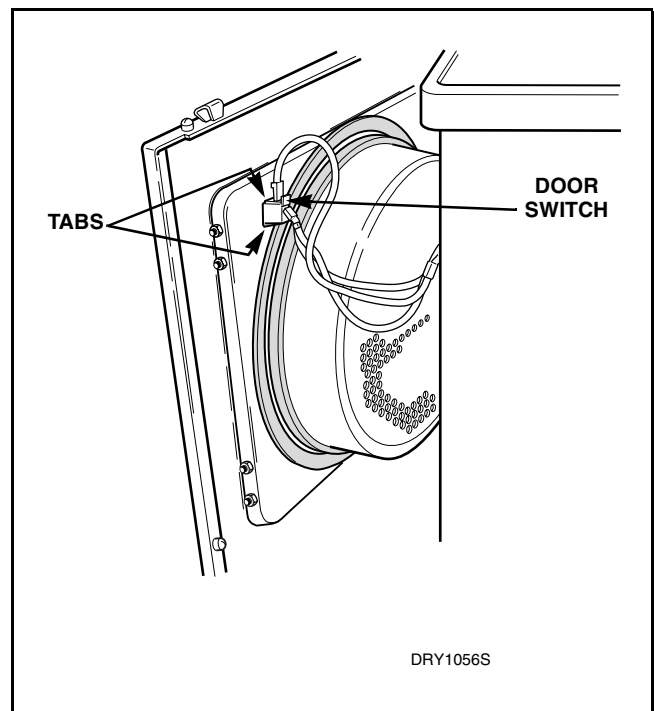

Figure 13
- Disconnect wires from door switch. Refer to *Figure 13*.
- Depress tabs on top and bottom of switch and push out of front panel. Refer to *Figure 13*.
1. Disconnect wires from door switch. Refer to *Figure 13*.
- c. Disconnect wires from door switch. Refer to *Figure 13*.
- (3) Disconnect wires from door switch. Refer to *Figure 13*.